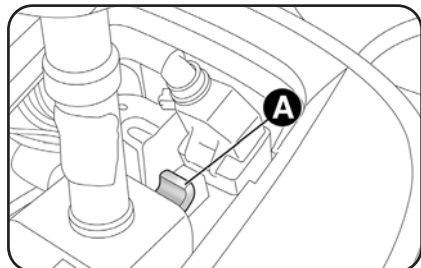

fig. 5
*If the battery is flat, to release the lever you need to remove the gaiter and operate the lever A-fig. 5.*